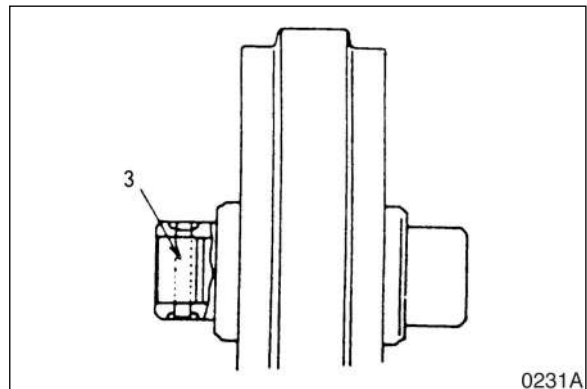

Figure 29
5. Install idler (7, Figure 29) on the axle.
6. Install bearing (1, Figure 29) and pin (3) to the axle.